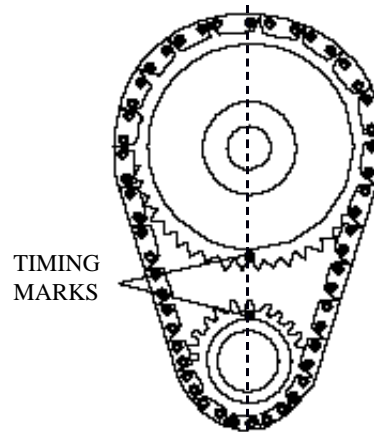

Figure 1— Timing Chain Sprocket Alignment
16. Remove fuel pump and fuel pump push rod. Rotate engine until timing marks are aligned as in Figure 1.
4. Install camshaft with timing marks lined up as recommended by factory specifications. See Figure 1.
PUSHROD AND ROCKER ARM INSTALLATION—After the cam is installed and timed correctly (see Figure 1), install push rods, lifters and rocker arms.